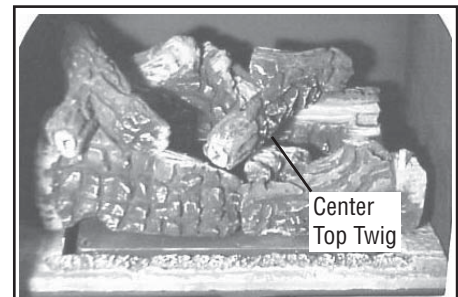

Figure 15
7. Install the center top twig onto the corresponding pin on the rear log and align it with the indentation on front left log as shown in figure 15.